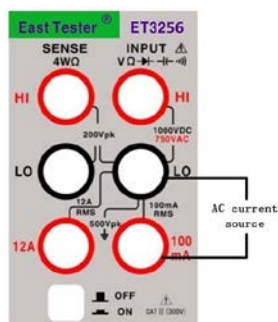
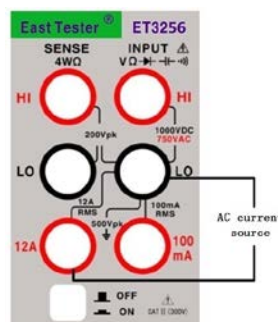

Figure 4-9 Wiring method for low current measurement
Figure 4-10 Wiring method for high current measurement
2. Choose different test terminals according to the measurement level. See Figure 4-9 for current of 200mA(ET3256)/500mA(ET3257)/ 600mA(ET3258)and below, and connect the red and black test leads respectively to the proper input terminals. See Figure 4-10 for current from 200mA (ET3256)/ 500mA(ET3257)/ 600mA(ET3258) to 12A, and connect the red and black test leads respectively to the proper input terminals.